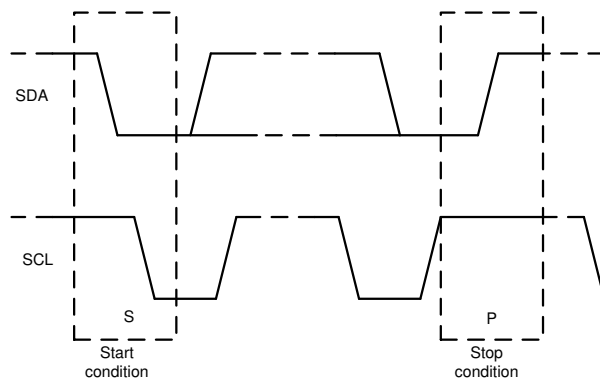

Figure 7-19. Start and Stop Conditions
1. The controller initiates data transfer by generating a start condition. Figure 7-19 shows that the start condition is when a high-to-low transition occurs on the SDA line while SCL is high. All I²C-compatible devices recognize a start condition.
4. Figure 7-19 shows that to signal the end of the data transfer, the controller generates a stop condition by pulling the SDA line from low-to-high while the SCL line is high. This action releases the bus and stops the communication link with the addressed target. All I²C-compatible devices recognize the stop condition. Upon receipt of a stop condition, the bus is released, and all target devices then wait for a start condition followed by a matching address.